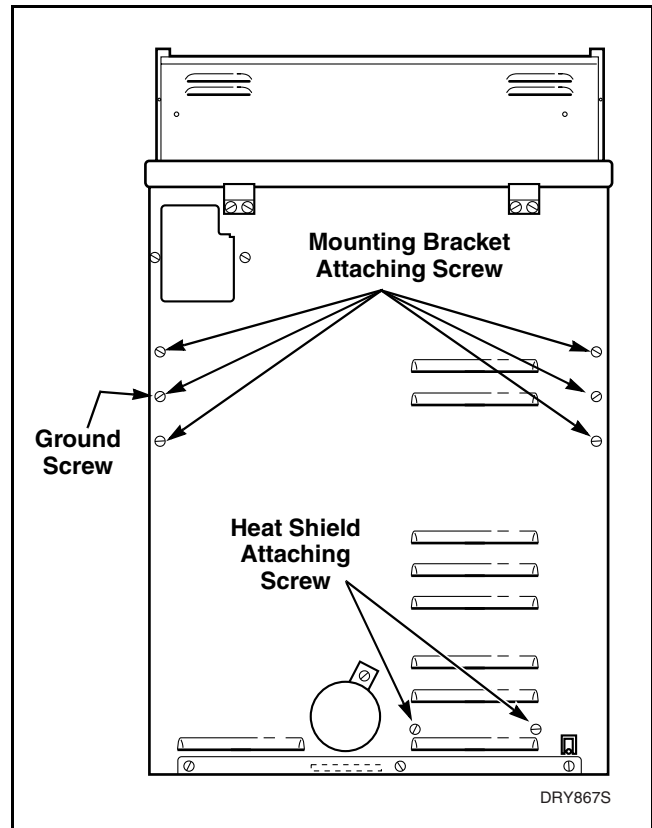

Figure 40
- e. Remove screws holding heat shield to rear of cabinet. Refer to *Figure 40*.
- b. Remove screws holding mounting brackets to rear of cabinet. Refer to *Figure 40*.